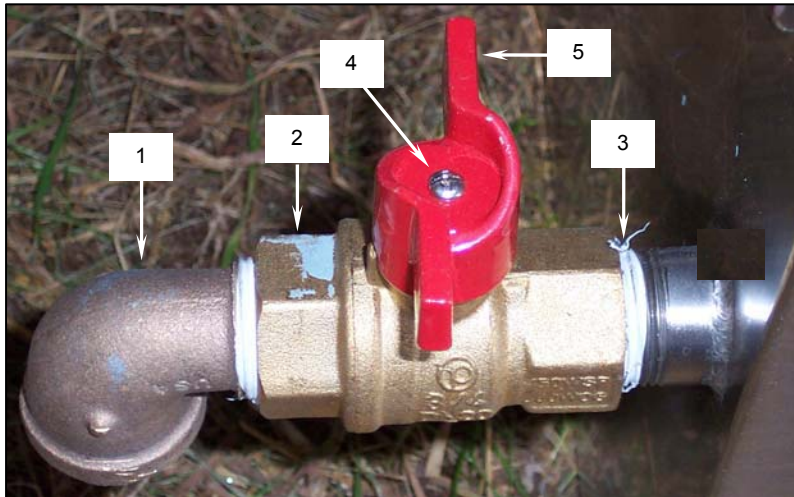

Figure 1. Removing the Grease Separator Grease Removal Valve.
- a. Unscrew the pipe elbow (**Figure 1, Item 1**) from the valve (**Figure 1, Item 2**).
- b. Unscrew the valve (**Figure 1, Item 2**) from the grease separator drain outlet (**Figure 1, Item 3**).
- c. Remove and retain the hex head machine screw (**Figure 1, Item 4**) and valve handle (**Figure 1, Item 5**) from the valve (**Figure 1, Item 2**). These will be installed on the new valve.
- a. Clean the threads on the pipe elbow (**Figure 1, Item 1**) and the grease separator drain outlet (**Figure 1, Item 3**).
- b. Apply sealing compound to the threads of the pipe elbow (**Figure 1, Item 1**) and the grease separator drain outlet (**Figure 1, Item 3**).
- c. Install the valve handle (**Figure 1, Item 5**) on the new valve using the hex head machine screw (**Figure 1, Item 4**).
- d. Screw the valve (**Figure 1, Item 2**) onto the grease separator drain outlet (**Figure 1, Item 3**) and tighten so that the valve handle is up and the pipe elbow points down.
- e. Screw the pipe elbow (**Figure 1, Item 1**) onto the valve (**Figure 1, Item 2**) and tighten so that the elbow points down in the opposite direction from the valve handle.